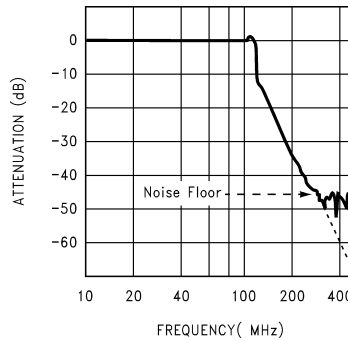

Figure 10.
Figure 10 shows the large signal sine wave frequency response of the LM2403. The frequency response rolls off very rapidly above the bandwidth limit of the amplifier. There are two reasons for this fast response roll-off:
2. The internal feedback network of the closed loop amplifier holds the gain at -14 until the loop gain drops below unity. Above this frequency, the amplifier response falls with the open loop gain of the amplifier, as the feedback ceases to have any significant effect. There is also a change in the impedance match between the op-amp and the emitter follower output stage with large signals at higher frequencies. This creates a gain boost that extends the bandwidth, then gives a sudden roll off as shown in Figure 10. The exact response of this roll off may vary slightly depending upon operating conditions, signal amplitude etc.